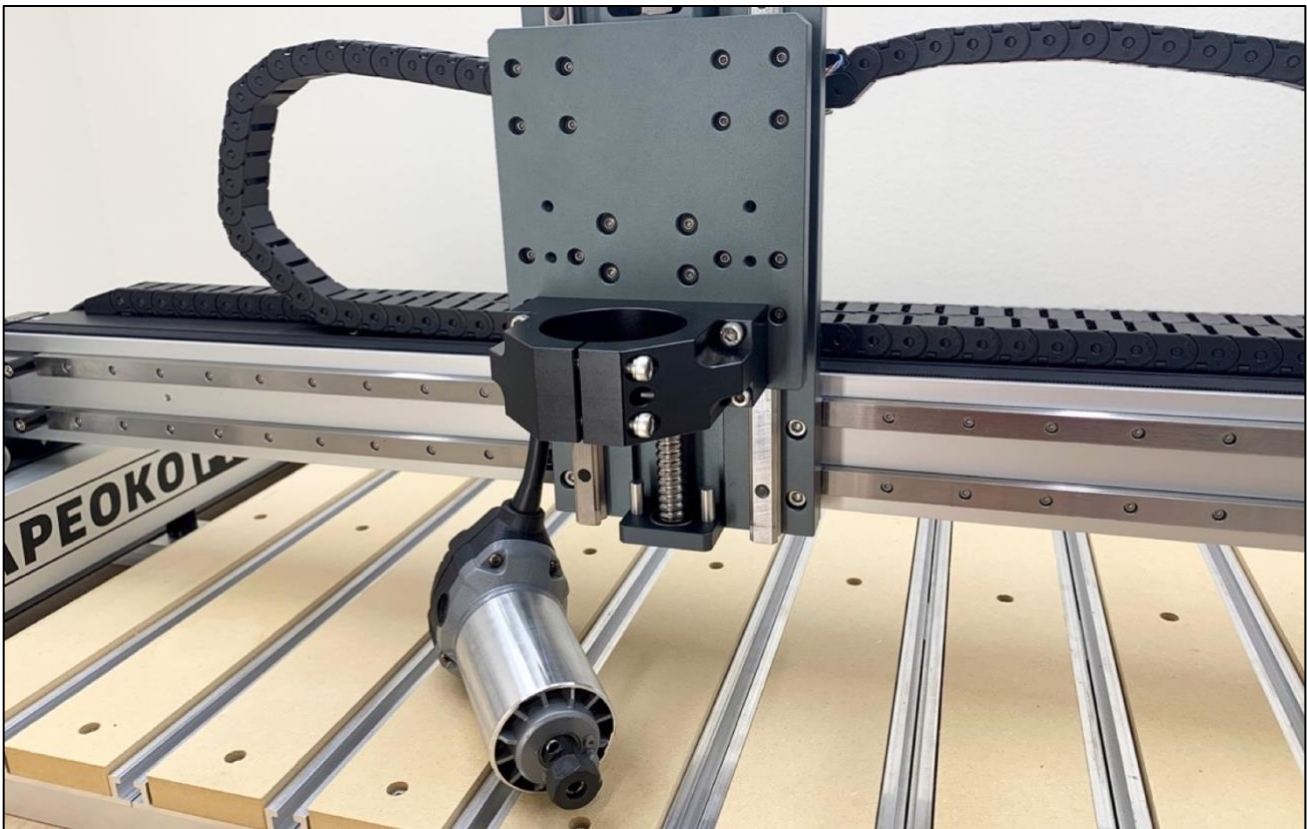

Figure 2
4. Use a 5mm hex key to loosen the two M6 screws securing the old router, and remove it from the spindle mount. See *Fig. 2*.